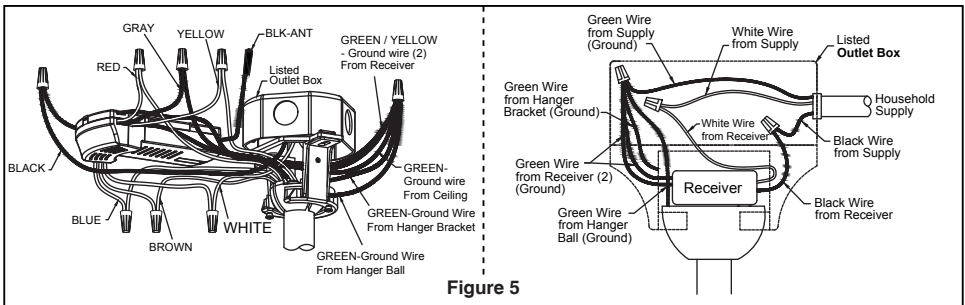

Figure 5
5. Route wires through motor coupling cover, canopy screw cover and ceiling canopy. (Figure 5)
4. After connections have been made, put the white and green leads to one side and the black leads towards the other side, the connection should be turned upward and carefully push leads into the outlet box. The wires should be spread apart with the grounded conductor and the equipment-grounding conductor on one side of the outlet box and the ungrounded conductor on the other side. (Figure 5)
5. Assemble the light kit assembly to the light plate assembly using the two key slots. Replace the removed screw in Step 3 and secure all three screws. (Figure 5)
5. To set the remote code same positions as the receiver with a small screwdriver or ball point pen (neither included), slide dip switches firmly up or down. (Figure 5)